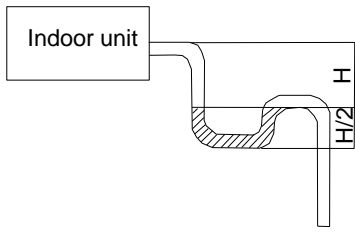

Figure 3-1-52
(4) When the drain hose cannot keep a sufficient gradient, it is necessary to fit a riser pipe (field supplied) to it.
(5) If the air flow of indoor unit is high, this might cause negative pressure and result in return suction of outdoor air. Therefore, U-type water trap shall be designed on the drainage side of each indoor unit (Figure 3-1-52).
- (6) Install one water trap for each unit.
- (7) Installation of water trap shall consider easy cleaning in the future.